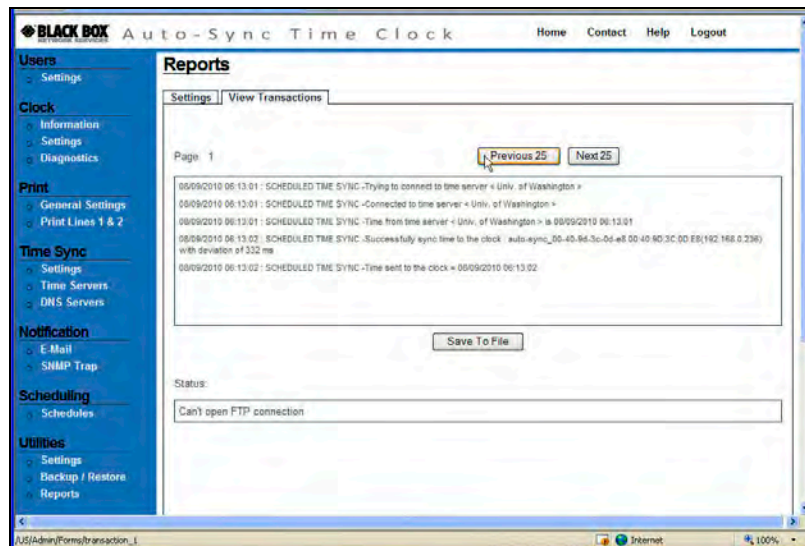

Figure 4-28. View Transactions Example.
6. Click on the **View Transactions** tab to view the transactions based upon the previously defined and saved settings (see *Figure 4-28*). **All failed synchronizations will appear in red when viewed in the browser.** See the following for a transaction view examples: